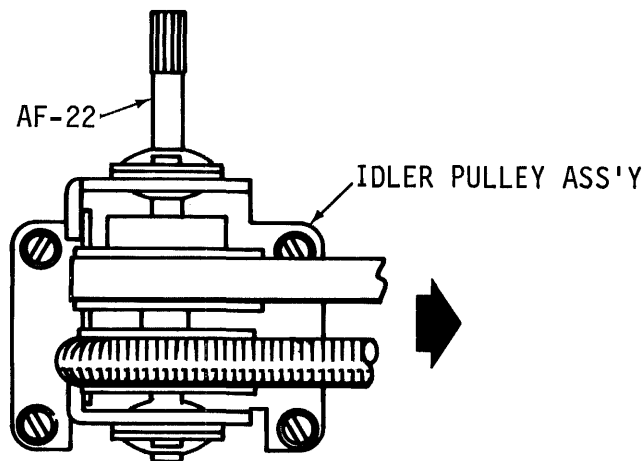

Figure 5-13 LOCATING IDLER PULLEY ASSEMBLY
- d. Move idler pulley assembly (AF-21) so that unit is located to the extreme right position of mounting holes. Unit must be parallel to center line of printer (Refer to Fig. 5-13).